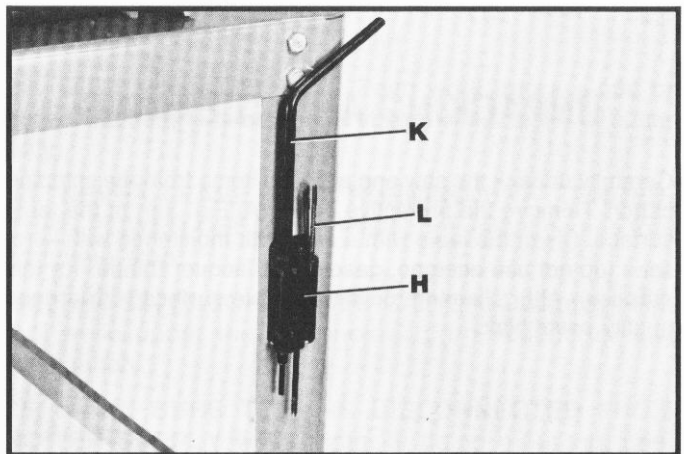

Fig. 7
5. Blade changing wrench (K) Fig. 7, and extra blades (L) can be stored in wrench holder (H).